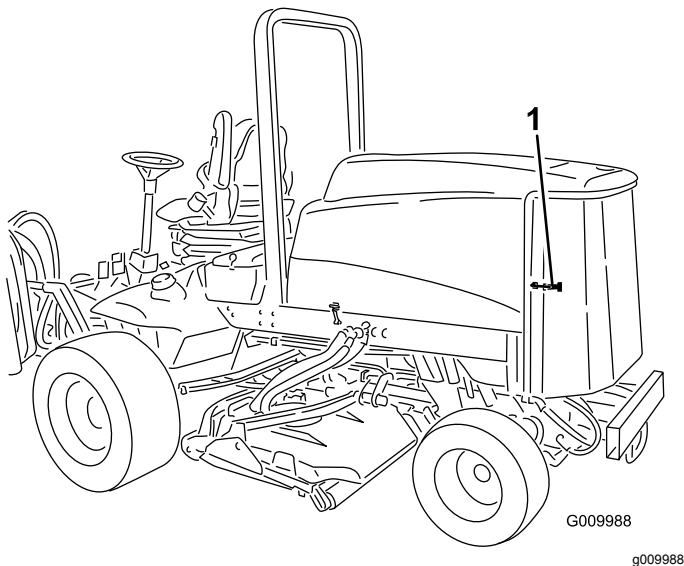

Figure 50
1. Unlatch and swing open rear screen (Figure 50). Clean the screen thoroughly of all debris.